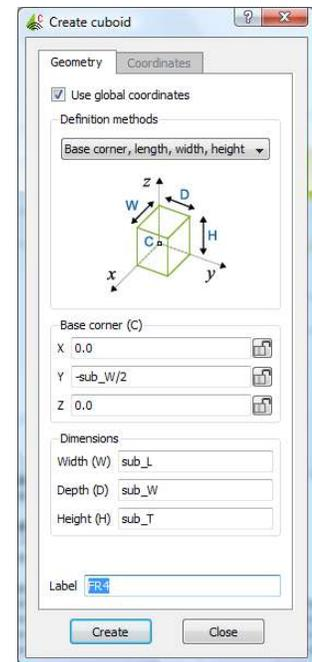
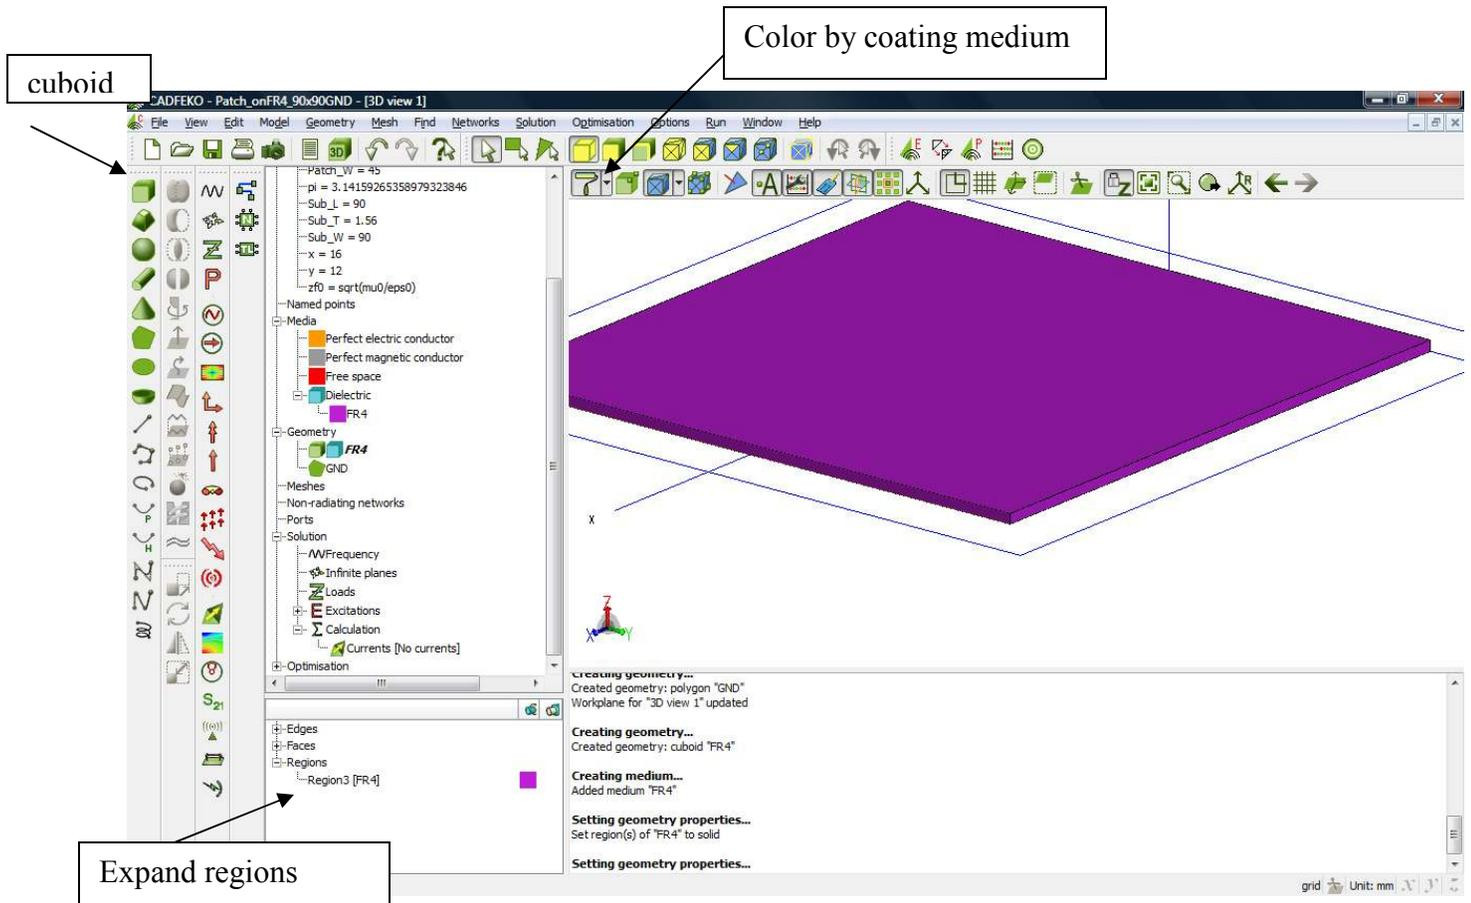

Figure 7.
Figure 8.
- Now, we can create the dielectric substrate. Choose “Cuboid” from the left side menu, and substitute the dimensions as shown in Figure 7, then hit “Create”. You will see the FR4 substrate on TOP of the GND plane you created. To make sure all is ok, rotate the view by clicking the left mouse button, and move the mouse around. Figure 8 shows one view that you might have (bottom view).